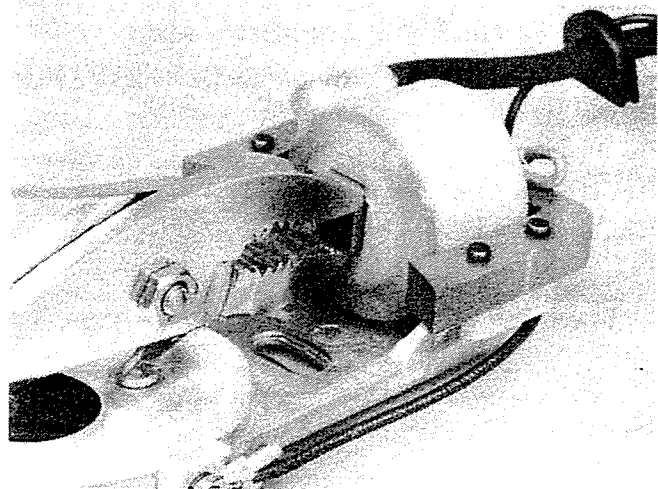

Figure 16. Straightening Coil Lamination.
2. Straighten coil lamination. Figure 16.